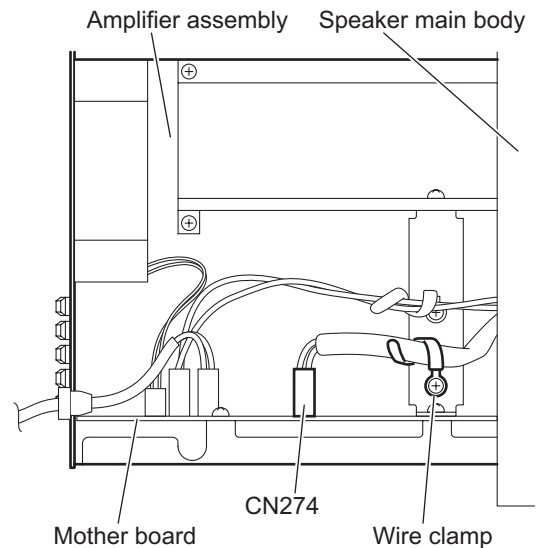

Fig.3
- (3) From the left side of the speaker main body, move the amplifier assembly backward and disconnect the wire from the connector **CN274** on the mother board. (See Fig.3)
After connecting the wire to the connector **CN274** on the mother board, bundle the wire by the wire clamp. (See Fig.3)